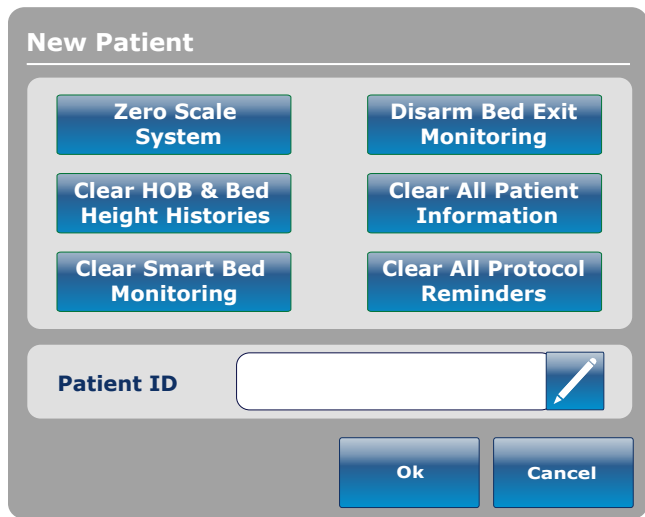

Figure 3.1
- New Patient: pressing on the “New Patient” button displays Figure 3.1 and patient information may be entered.
When the “New Patient” button is pressed, the Patient Information screen, Figure 3.1, will be displayed. The operator can enter the new patient ID by pressing the pencil icon which will bring up the keyboard screen. When the patient name is entered, the operator presses the “OK” button on the keyboard screen and then “OK” on the New Patient screen. The Patient Information screen will be displayed with the new patient ID.